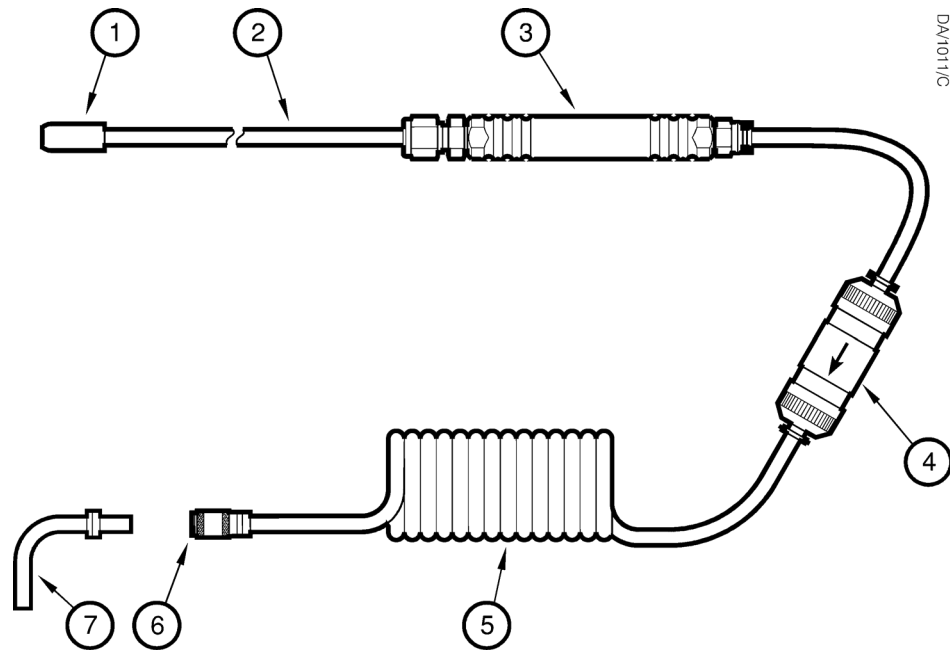

Figure 39: Optional gas probe assembly
Refer to Figure 39. The accessory consists of the removable protective tip (1, only supplied with the 25 cm Probe accessory), the probe (2) and handle (3), an optional filter (4), and a coiled sample pipe (5) which is terminated by an outlet connector (6).
If the gas probe is not already assembled, simply push-fit the components together as shown in Figure 39.
Refer to Figure 39. When you want to use the gas probe accessory during gas sampling: